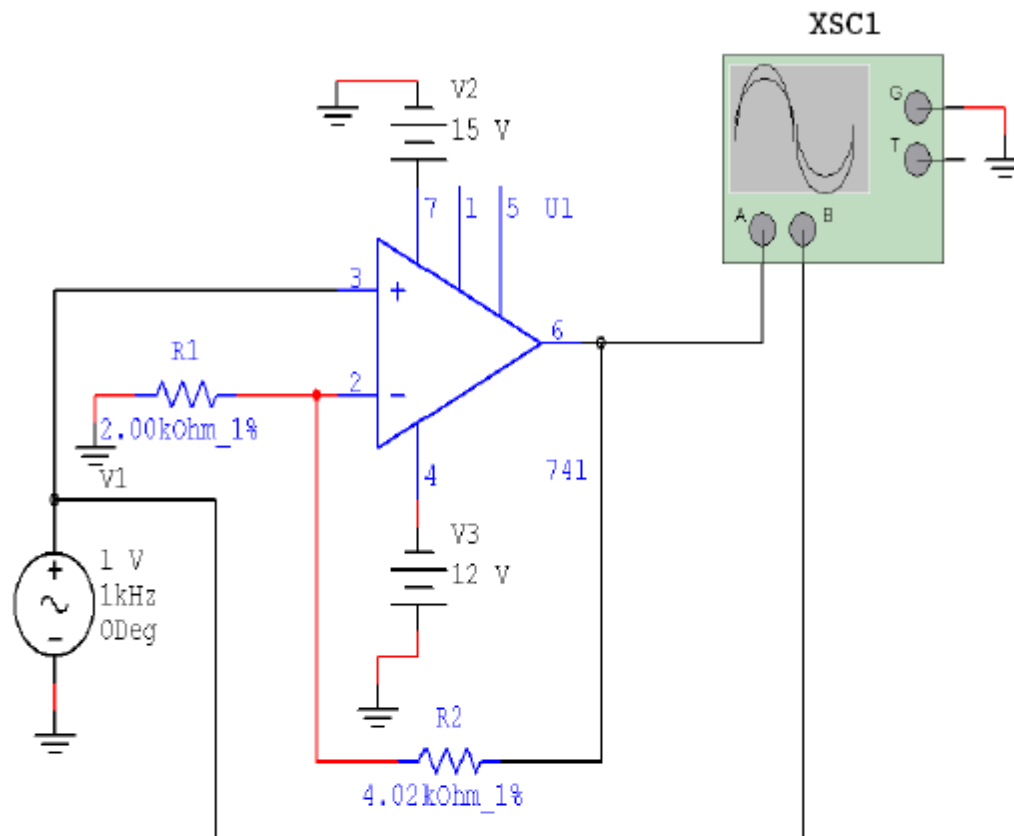

Fig.12 Non-Inverting Operational Amplifier
- Construct the circuit shown in Fig.12.